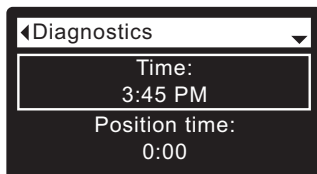

FIG. 96
8. Press the SELECT (O) button to display the Diagnostics screen (See Figure 96).